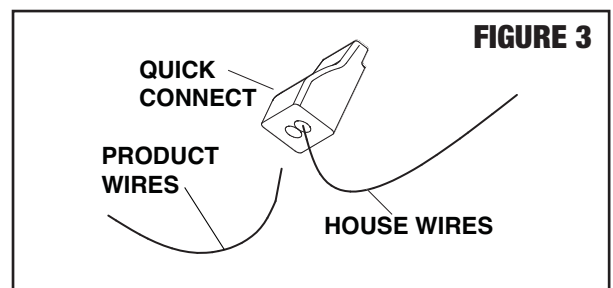

FIGURE 3
3. USING QUICK CONNECT (FIGURE 3)